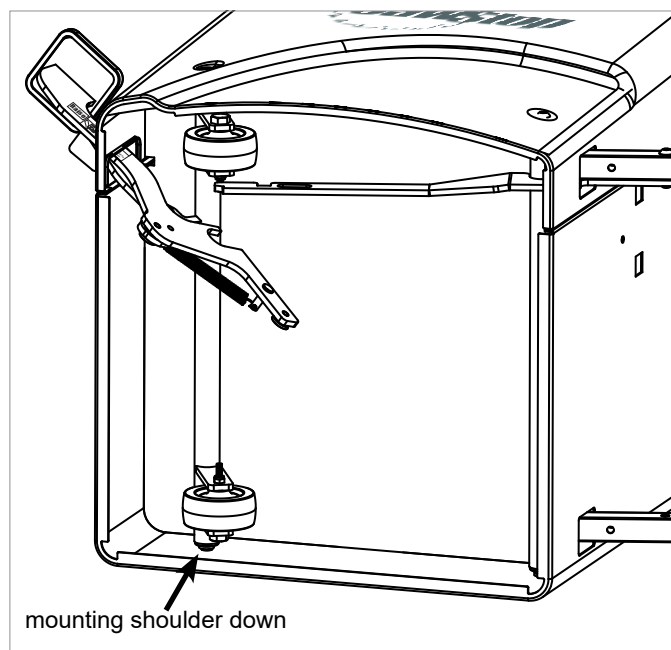

Fig. 11
11. Take the wheel support and place it inside the cabinet and behind the pedal assembly, as shown in Fig. 11. Make sure that the end of the wheel assembly with the mounting shoulder is at the rear of the cabinet. It might be a little awkward to position the wheel support behind the pedal assembly, but the pedal assembly is loose and can move to allow you to position the wheel support. When the wheel support is correctly positioned the pedal assembly will be between the two wheels (see Fig. 11). The pedal assembly must be inserted through the hole in the cabinet before the wheel support is placed inside the cabinet, otherwise the wheel support will block the pedal assembly.